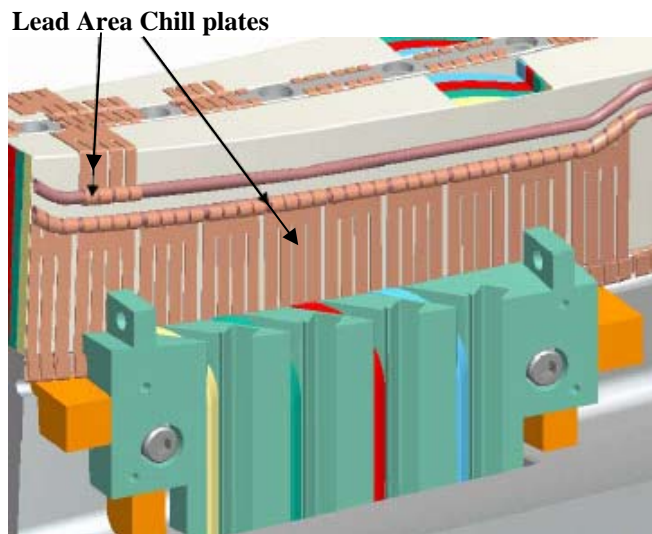

Figure 33- Chill Plates in Lead Area
6.30.1 Install the modified upper and lower chill plates and cooling tubes in the lead area on both sides “A” and “B”. Fitup and trimming of components will be required. Use approved NCSX assembly drawings. See Figure 33- Chill Plates in Lead Area